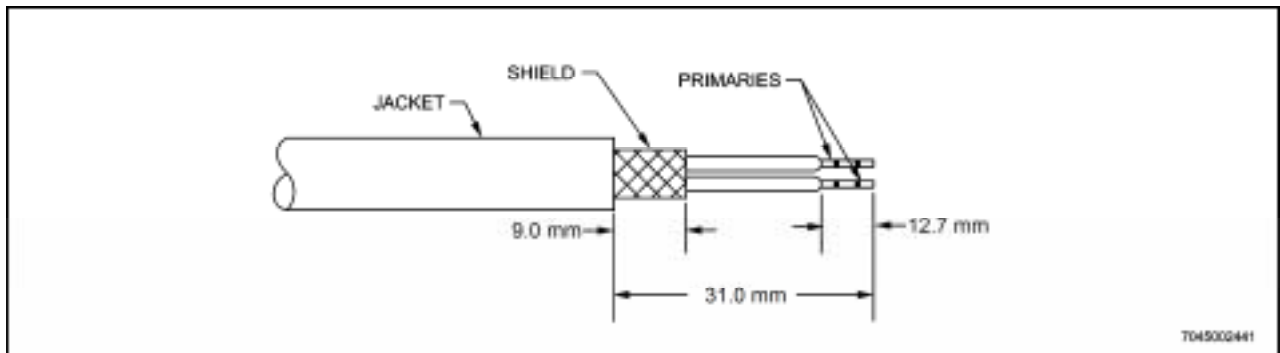

Figure 5-27 Single Shield Cable Strip Dimensions
- a. Remove 31mm of cable jacket (Figure 5-27).